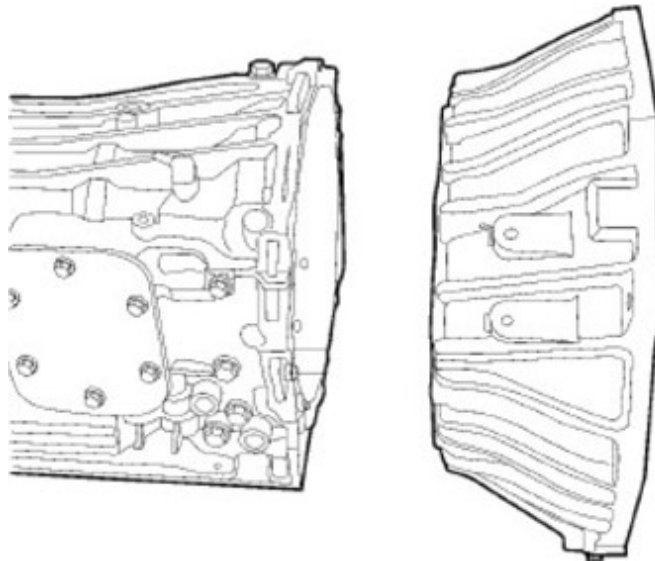

Fig. 4
8. Remove the bolts securing the torque converter housing to the transmission case and remove the housing Fig. 4.